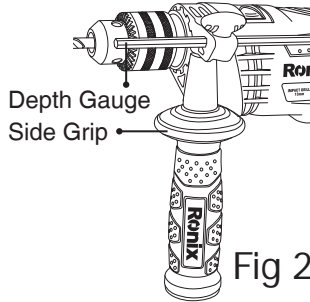

Fig 2
■ SIDE GRIP FOR 2240 (FIG 2)
■ DEPTH GAUGE FOR 2240 (FIG 2)